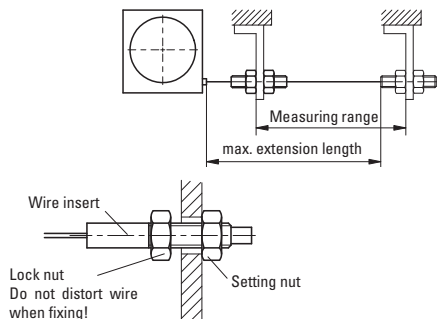

Fig. 2: Extension length check
- After fixing the wire-actuated encoder, check the maximum extension length (see Fig. 2). Pull the wire's end (wire insert, lock nut and setting nut) piece or the wire to the intended fixing point. Do not distort the wire!
Pull out the wire perpendicular to the wire outlet (see Fig. 2)